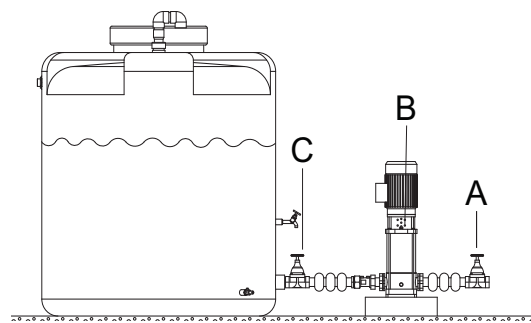

Figure 8: Sufficient pre-pressure
7.4.1 In an open or closed circuit with sufficient supply pressure (see figure 8 Sufficient pre-pressure)